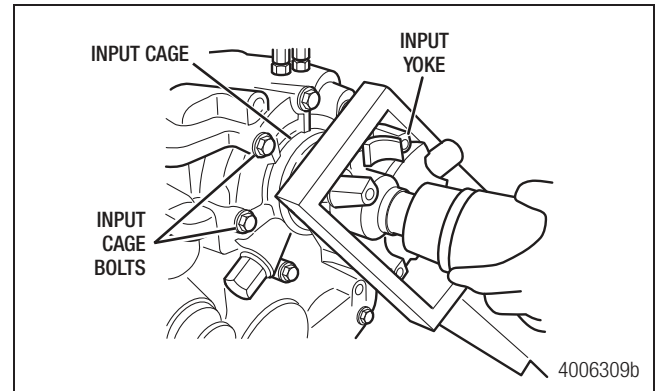

Figure 5.4
2. Use a yoke holder to secure the yokes from turning. Remove the yoke lock nuts and washers from the front and rear output shafts. Figure 5.4.
4. Use a yoke holder to secure the input yoke from turning. Loosen but do not remove the front input yoke, lock nut, and washer from the front input shaft. The yoke is used to lift the input shaft assembly from the transfer case. Figure 5.4.